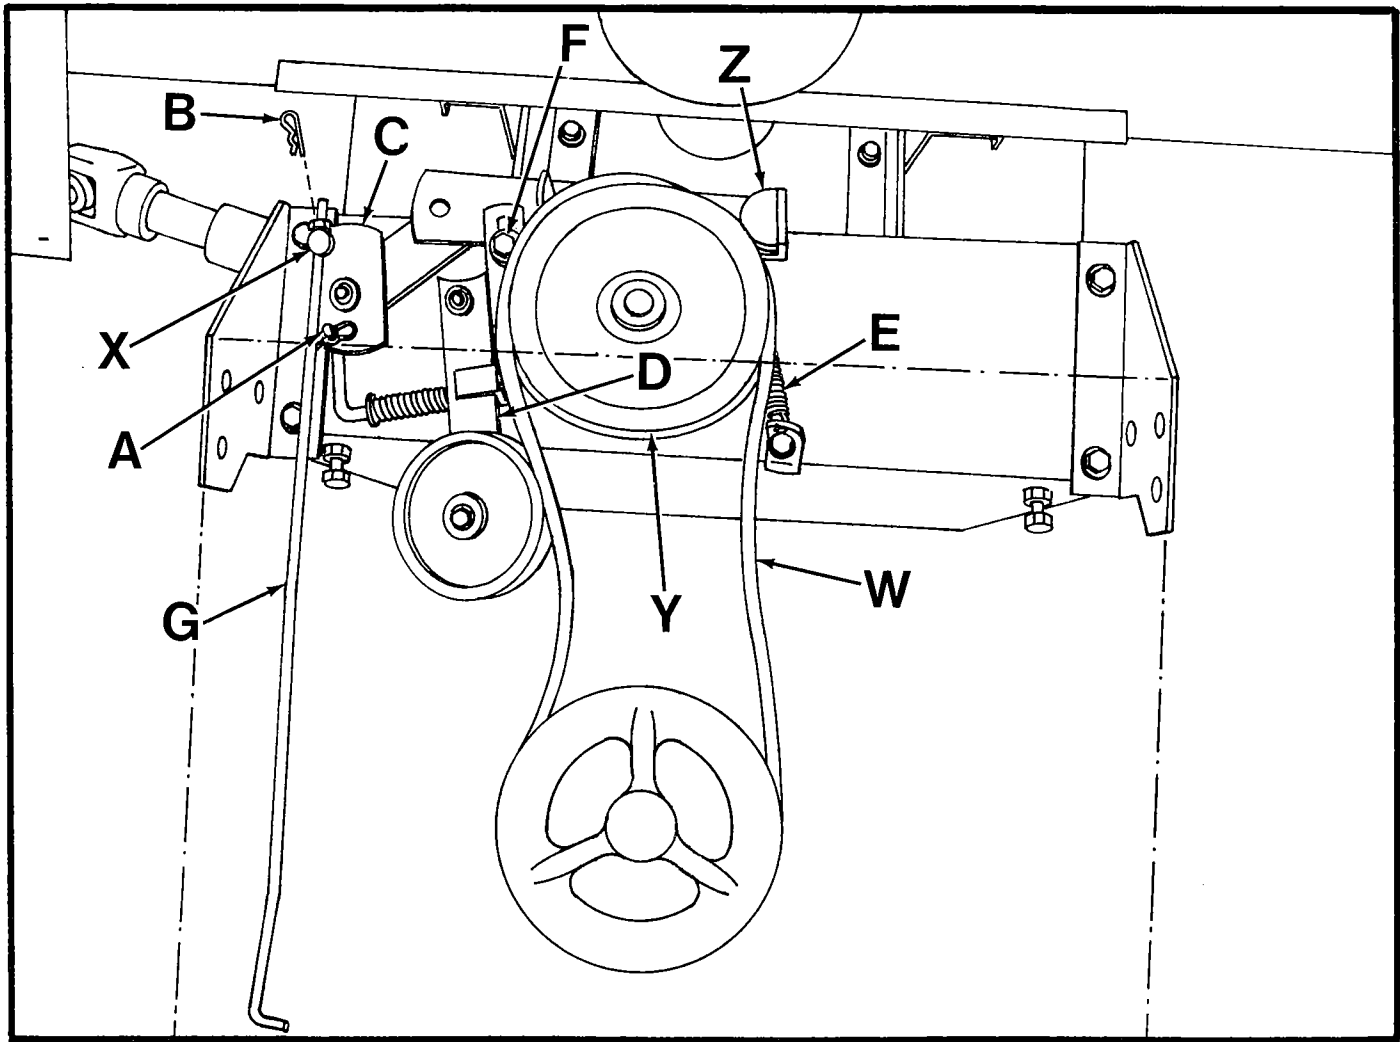

FIG. 9
4. Remove hair cotter pin (B) from adjustable end of clutch rod (G). (See Fig. 9)
5. Remove adjustable end of clutch rod (G) from clutch activating bracket (C).
7. Position clutch activating bracket (C) so clutch rod (G) touches stop pin (A) and anchor (X) can be assembled into clutch activating bracket (C) as shown in Figure 9.
8. Adjust anchor (X) until it can be assembled into clutch activating bracket (C) without moving tractor PTO lever.
9. Secure anchor (X) to clutch activating bracket (C) with hair cotter pin (B).
Information on snow thrower brake system (Fig. 9) for your snow thrower attachment.
4. Place unit in the engaged (ON) position.
5. V-belt brake (Z) should be 1/4" to 1/16" away from v-belt (W). (See Fig. 9)